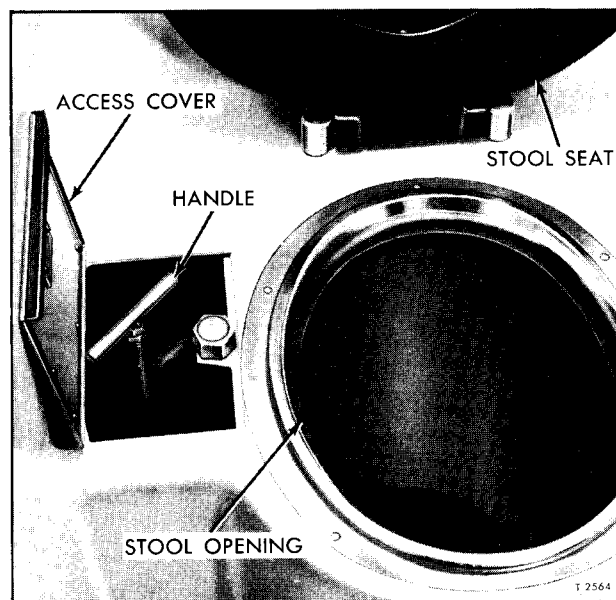
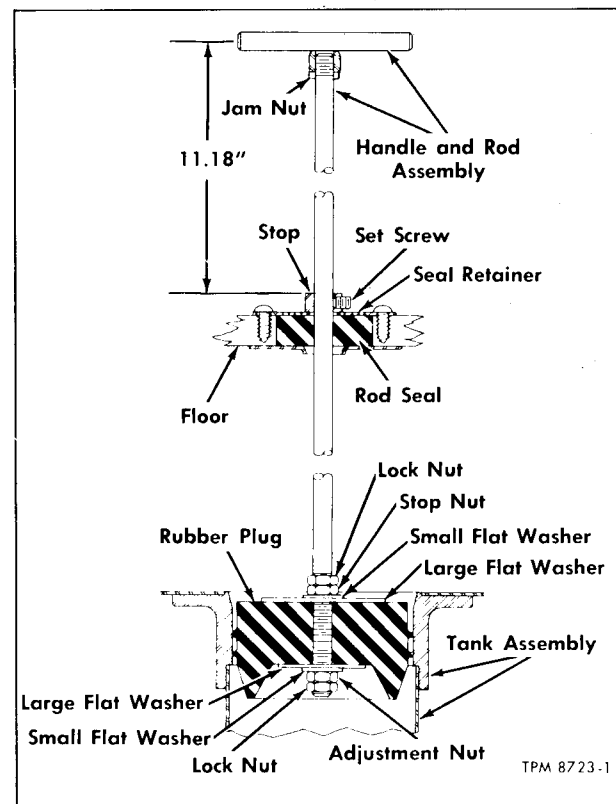

Figure 10—Access to Chemical Tank Drain Plug Handle
Figure 11—Chemical Tank Drain Plug and Handle Installation
2. In lavatory compartment at front side of stool cover, open the chemical tank drain plug handle access cover (fig. 10). Pull handle up approximately six inches as shown; this action lifts large rubber drain plug (fig. 11) from opening in bottom of tank and permits tank to empty.
1. Press chemical tank drain plug handle (fig. 10) down until handle rod stop is seated firmly to seal retainer. This action will position drain plug into tank drain opening as shown in figure 11.
Adjustment is made underneath coach at lower end of drain plug (fig. 11).